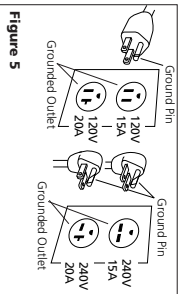

Figure 5
1. This product is for use on a nominal 120 or 240 volt circuit and has a grounding plug that looks like the plug illustrated in Figure 5. Make sure the product is connected to an outlet having the same configuration as the plug. This product must be grounded. In the event of an electric short circuit, grounding reduces the risk of electrical shock by providing an escape wire for the electric current. This product is equipped with a cord having a grounding wire with an appropriate grounding plug. The plug must be plugged into an outlet that is properly installed and grounded in accordance with all local codes and ordinances.
1. If the plug on the electrical cord of the unit is unfamiliar to you or will not fit your particular receptacle, Figure 5 will help you understand why by illustrating the different plugs and the voltages they are to be used with.
the receptacles shown in Figure 5, you can determine for which voltage your compressor is factory wired. Also check motor decal to change from low voltage to high voltage.